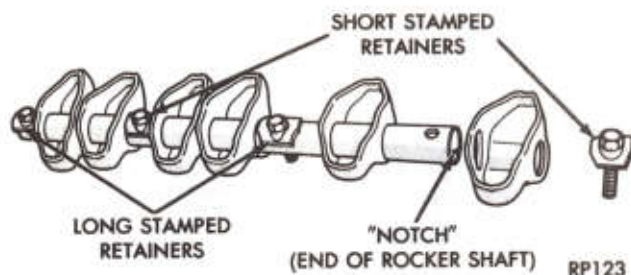

Fig. 9—Rocker Arm Retainers and "Notch" Location
(1) Install rocker arm and shaft assemblies with "Notch" (Fig. 9) on end of rocker shaft pointing to center line of engine and toward front of engine on the left bank and to the rear on right bank, making sure to install the long stamped steel retainers in the number two and four positions, tighten to 200 in. lb. (23 N·m) (Fig. 9).
engine on the left bank and to the rear on right bank (notch always to left as facing cylinder head), making sure to install the long stamped steel retainers in the number two and four positions, tighten to 200 in. lb. (23 N-m) (Fig. 9).